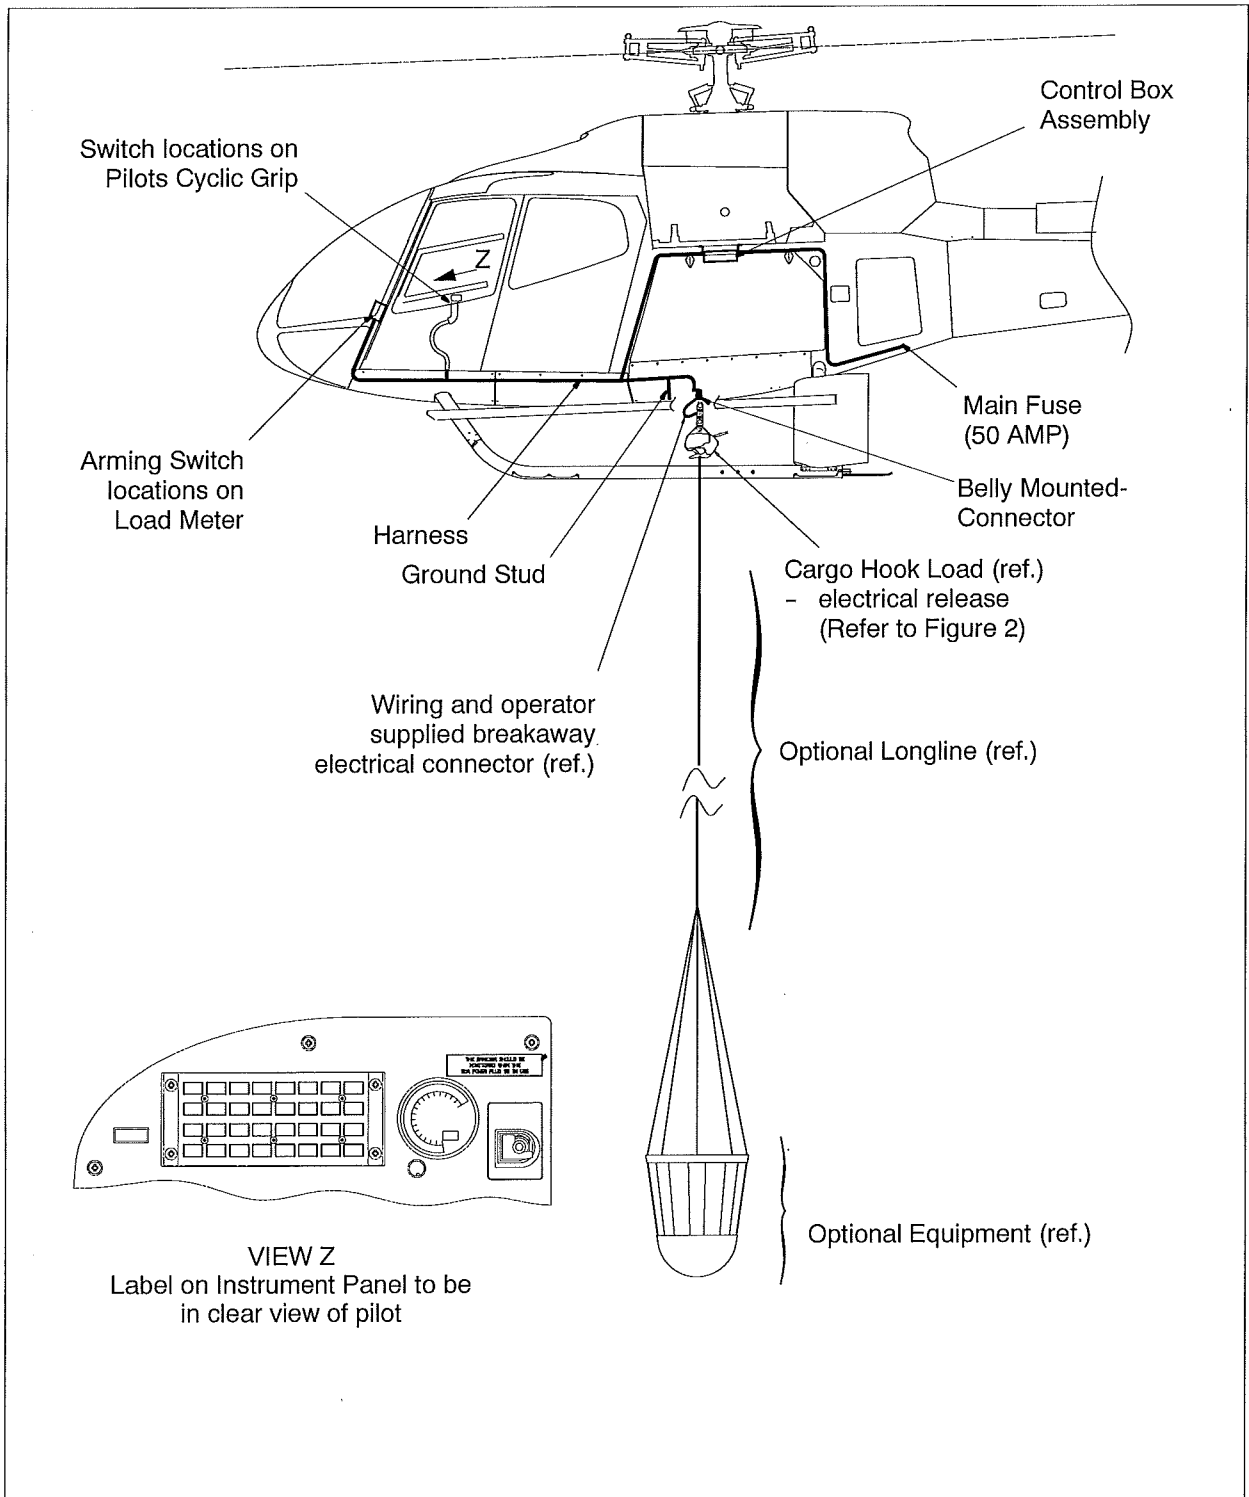

Figure 1 General Layout
- A. The Electrical Power Supply for Optional 50 AMP/Longline/Carousel System provides electrical power for optional equipment. Refer to Figure 1 for General Layout.